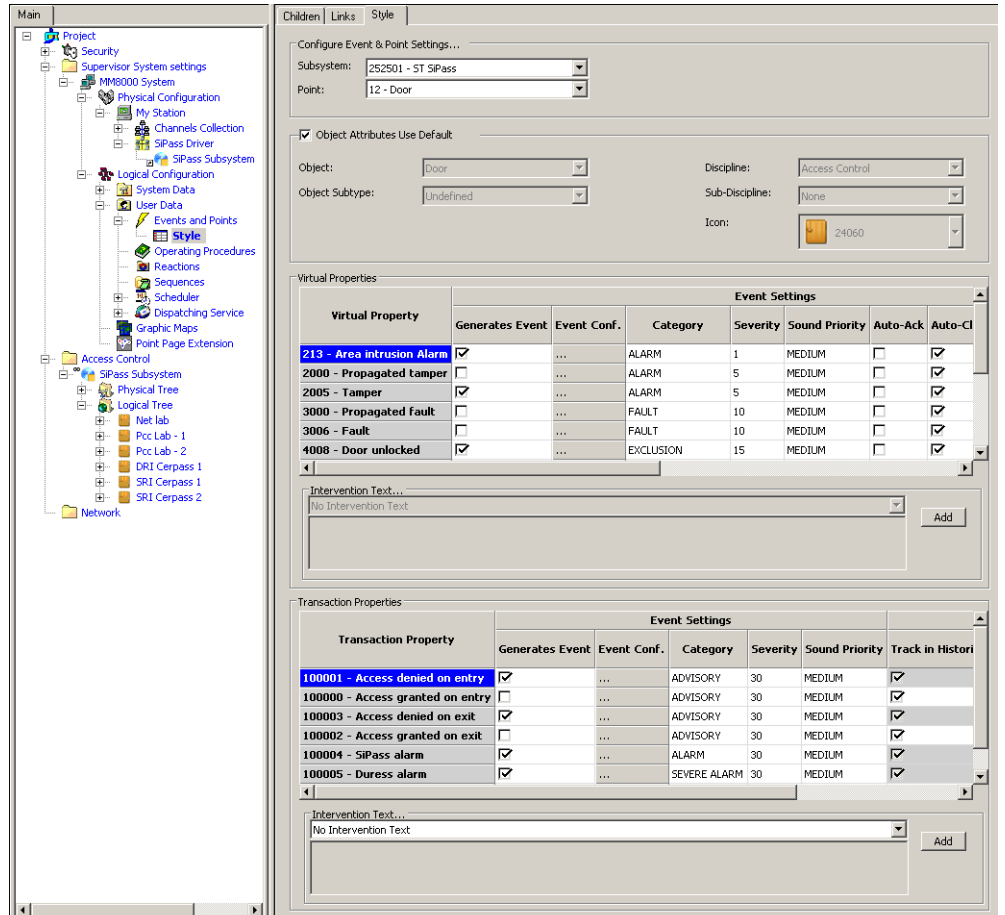

Fig. 14 Customising event settings of SiPass Doors
- In the **Style** tab of **MM8000 system - Logical configuration - User Data - Event and Points - Style**, customise the options of a class of points (e.g.: modifying the event settings for the properties of Door points as in Fig. 14).